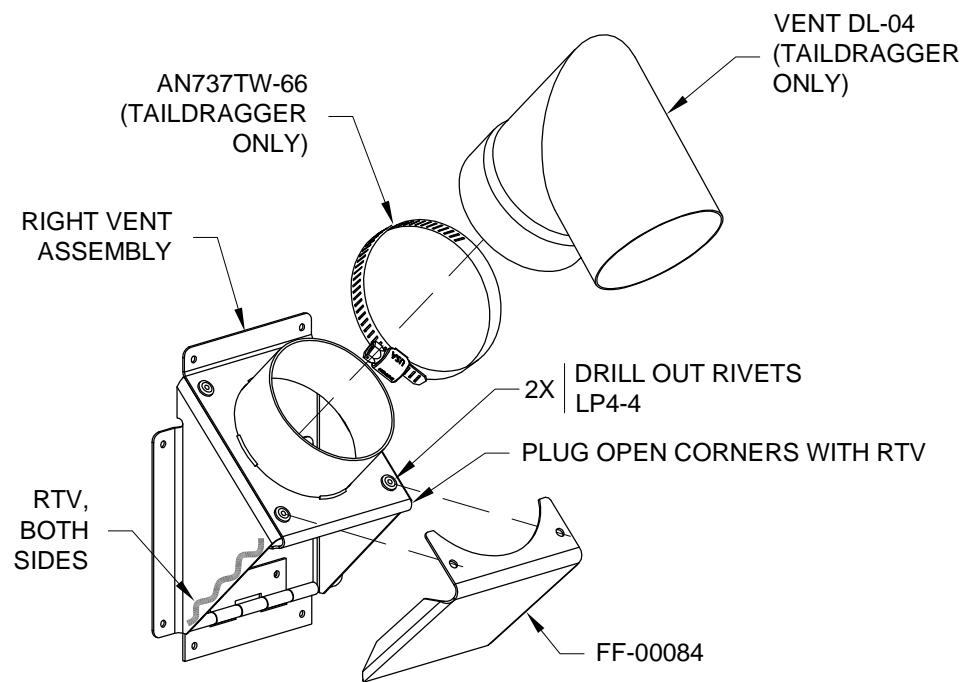

FIGURE 1: MODIFY RIGHT VENT ASSEMBLY
Step 1: Modify the Right Vent Assembly as shown in Figure 1.